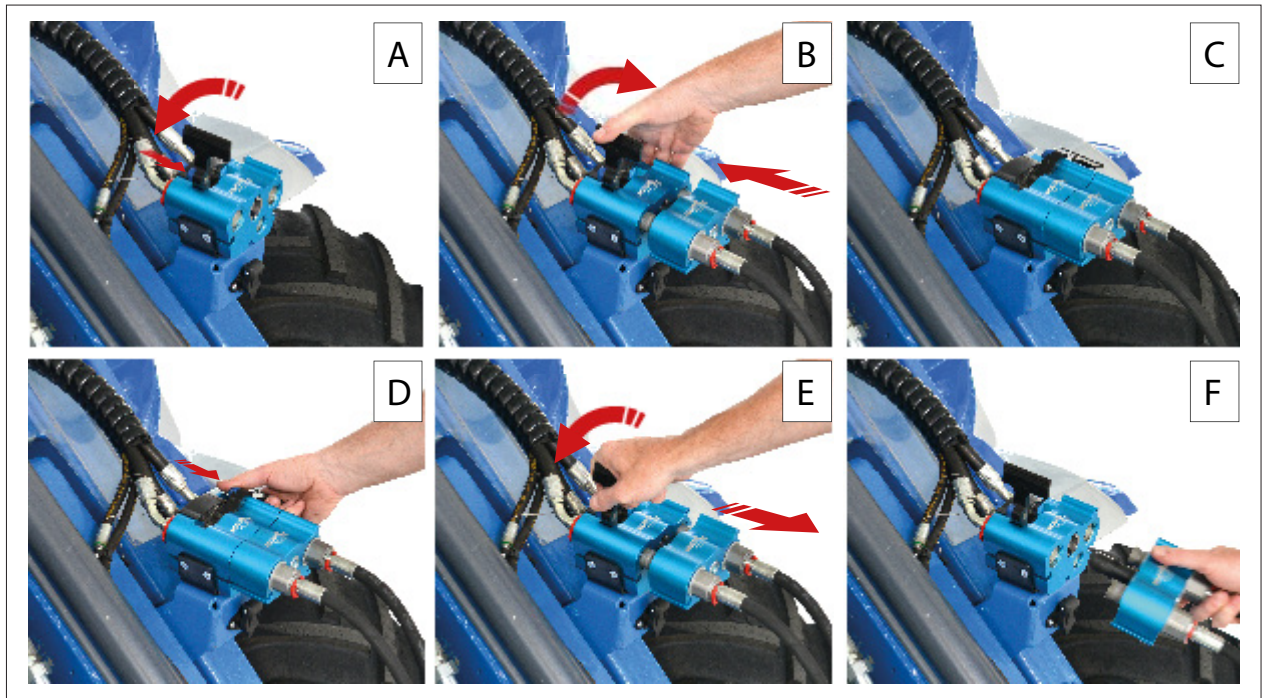

FIG. 31
Before making hydraulic connections between the machine and the attachment (FIG. 31) you need to release the residual pressure in the hydraulic circuit of the machine. To make this proceed as follows:
- 2) Press the lock button (FIG. 30 - Ref. 2) on the lock handle and raise the lock handle (FIG. 30 - Ref. 3) to the unlocked position (FIG. 31 - Ref. A).
- 4) Pull the lock hand (FIG. 31 - Ref. B) downwards, drawing the adapter plate into the connector (FIG. 31 - Ref. C).
- 1) Press the lock button (FIG. 31 - Ref. D) on the lock handle and raise the lock handle to the unlocked position (FIG. 31 - Ref. E).
- 2) Disconnect the attachment's hydraulic lines from the machine (FIG. 31 - Ref. F).